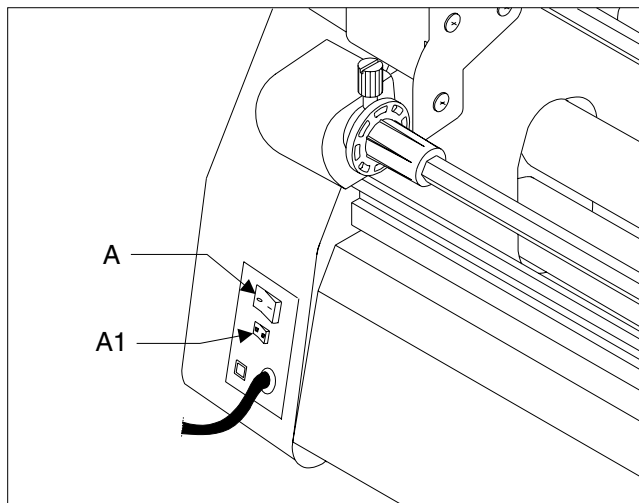

Fig. 1
A. POWER SWITCH: Fig. 1. Located at the back of the machine applies power to the laminator. The LED display panel will illuminate when position marked "I" is pushed. The off position, marked "O", removes power from the laminator.
A1.FAN SWITCH: Fig. 1. Located at the back of the machine applies power to the fans when position marked (⊕) is pushed. The off position marked (⊖) removes power from the fans.